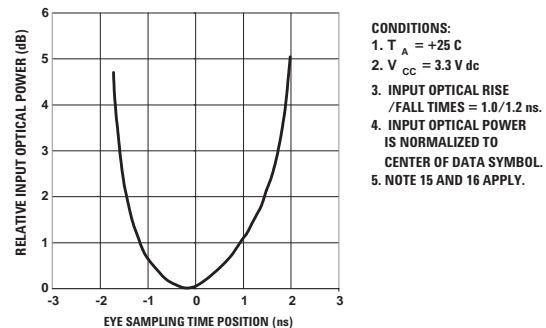

Figure 8. Relative Input Optical Power vs. Eye Sampling Time Position.
| Input Optical Power Minimum at Window Edge | $P_{IN\ Min. (W)}$ | | | Pin Min (C) +1 dB | dBm avg. | Note 14 Figure 8 |
| Input Optical Power Minimum at Eye Center | $P_{IN\ Min. (C)}$ | | | -29 | dBm avg. | Note 15 Figure 8 |